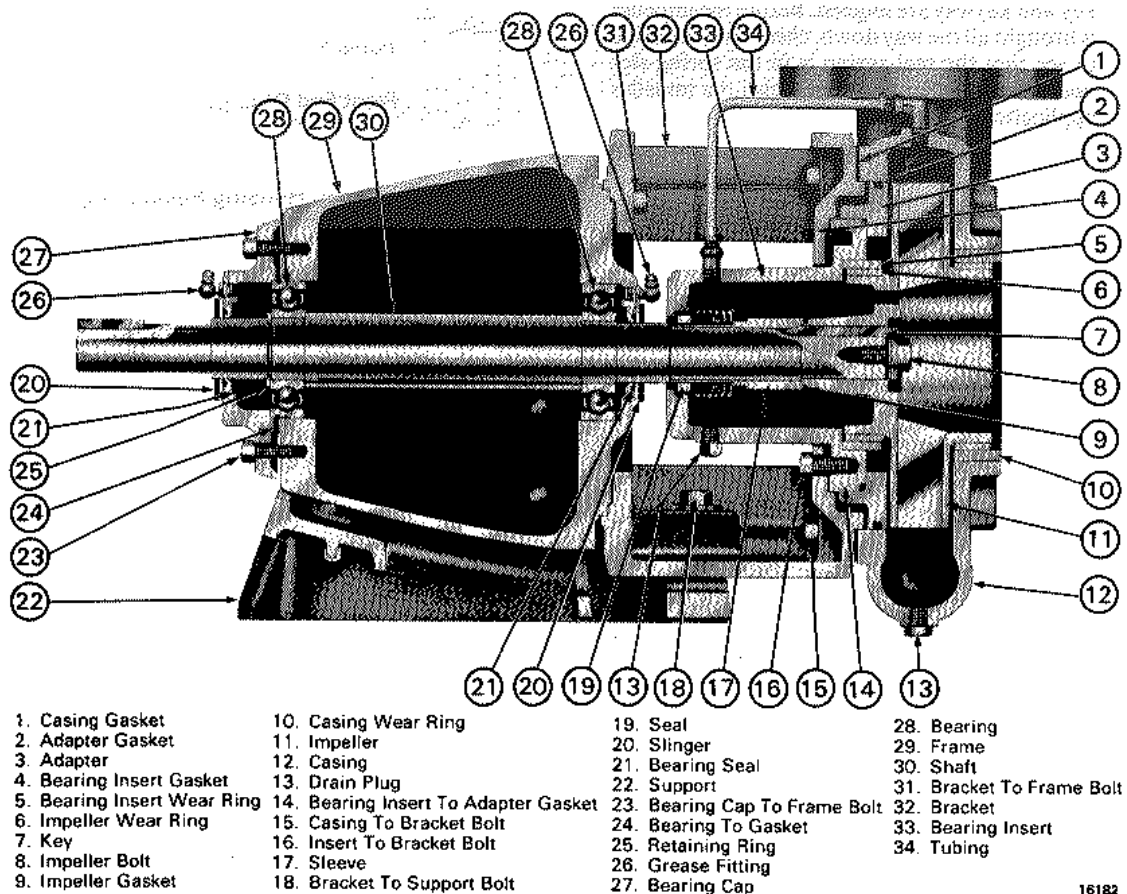

Fig. 10-12 - Typical Raw Water Pump Cross-Section
The raw water pump, Fig. 10-12, is a horizontal, centrifugal, ball bearing type pump. It can be either left-hand or right-hand rotating depending upon the application.
2. Break suction and discharge piping and remove the two drain plugs from the casing, Fig. 10-12.